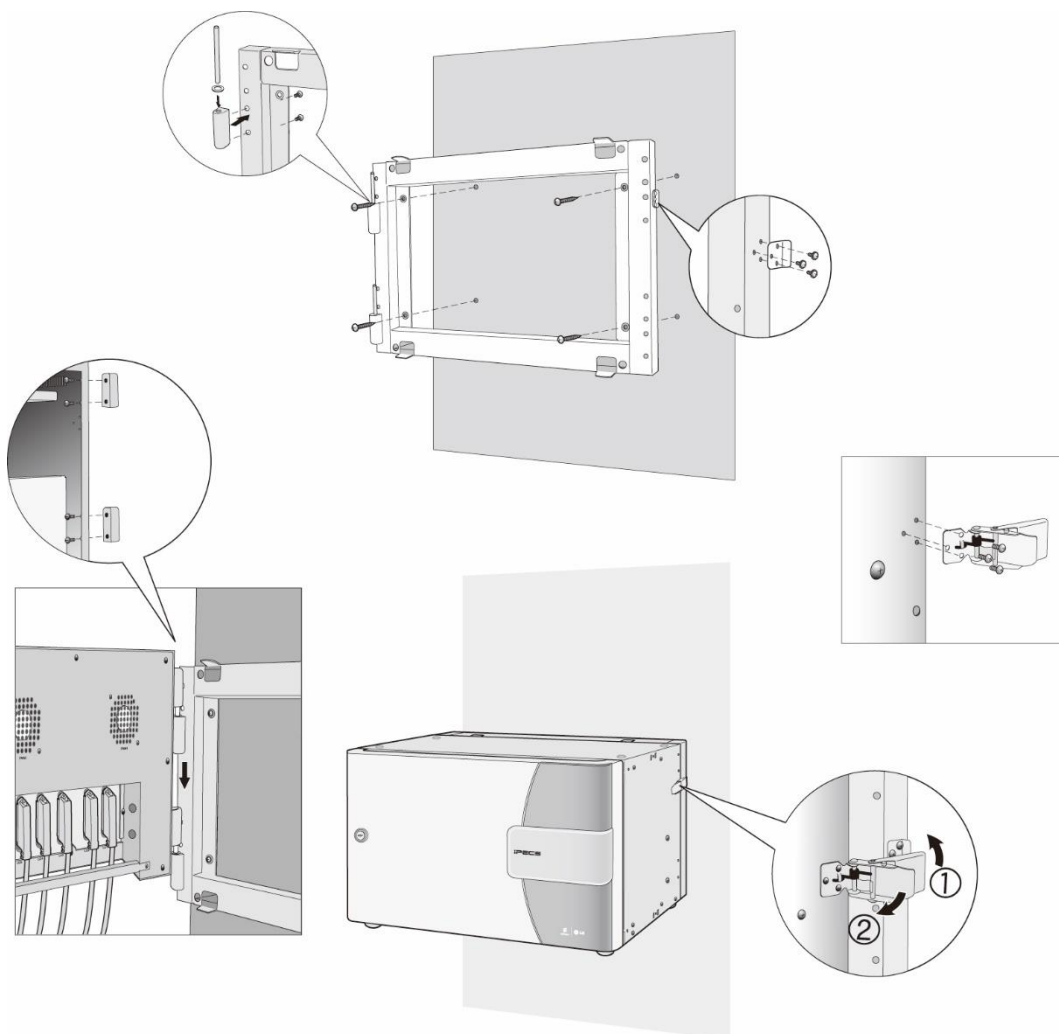

Figure 5.1.3-1 Cabinet Wall Mount Kit Installation
clearance and lighting. Also, to keep the cabinet from swinging open, a latch is provided. Follow the steps below and Figure 5.1.3-1 for installation.
- 2) Mount the separated hinge bodies, two to the Wall Mount bracket and two to the cabinet using the M6 x 8 mm machine screws; two (2) for each hinge body provided.
- 3) Use the Wall Mount kit to mark the location of four (4) mounting holes for the Wall Mount kit as shown in Figure 5.1.3-1. Assure the Wall Mount holes are level and plum.
- 4) Drill four (4) 7 mm holes for the plastic wall anchors provided.
- 5) Fully Insert a wall anchor into the each of the four (4) holes, insert and tighten screws leaving about 6 mm (¼-inch) exposed.
- 6) Place the Wall Mount kit on the four (4) screws and tighten the screws securely.